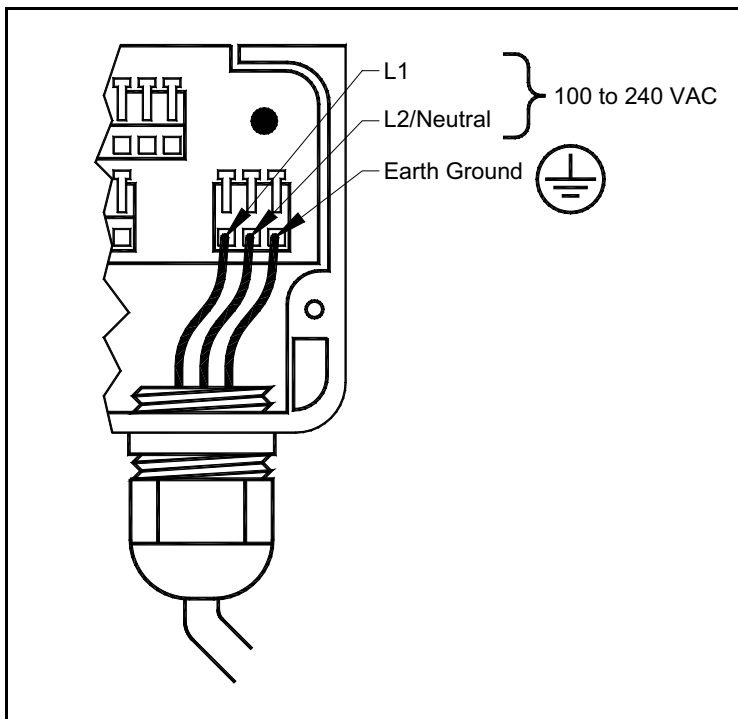

Figure 18: AC Power Wiring
4. Connect the wires to the J2 terminal block: L1 input to Pin 1, L2/Neutral to Pin 2, and Earth Ground to Pin 3 as shown in Figure 18 below. Voltage ranges from 100 to 240 VAC are supported.